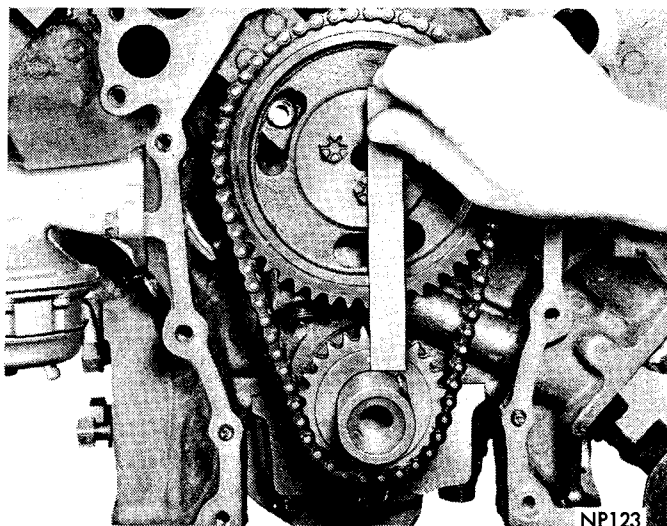

Fig. 20—Alignment of Timing Marks
(11) Slide both sprockets evenly over their respective shafts.
(12) Use a straight edge to measure alignment of timing marks (Fig. 20).
(13) Install camshaft sprocket bolts and tighten to 40 foot-pounds.